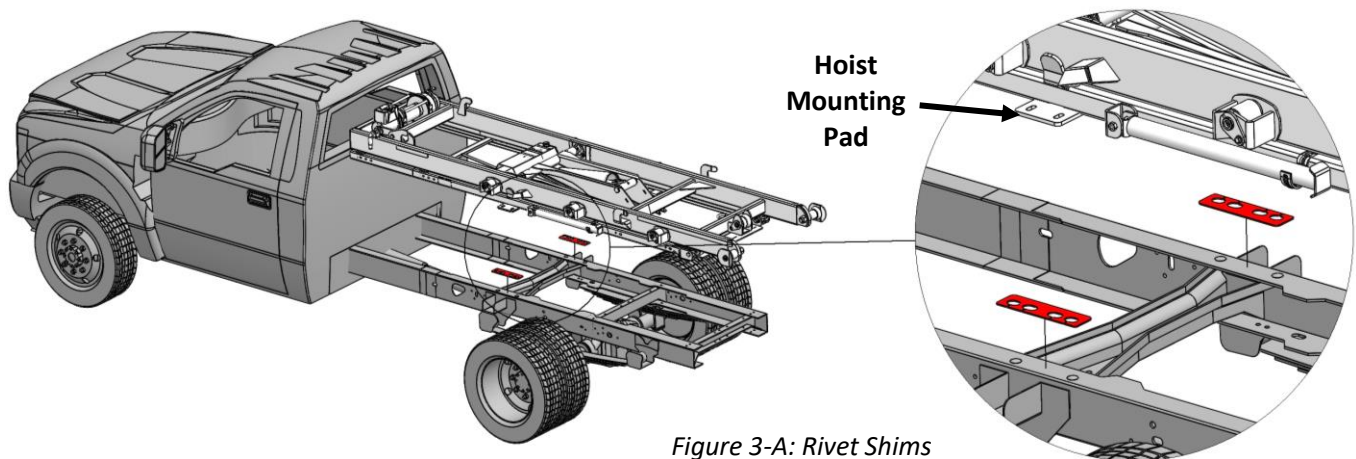

Figure 3-A: Rivet Shims
Step 2 - If the vehicle has rivets where the *Hoist Mounting Pad* will sit: Place spacers (*Rivet Shims*) on vehicle chassis frame around rivets, see *Fig. 3-A*. Do not countersink the *Hoist Mounting Pad* that extends out from the subframe. **Do not remove rivet heads**. If rivets are the round style, they may be ground flush with the *Rivet Shim*. These plates are to be placed over the rivet heads for proper weight distribution.